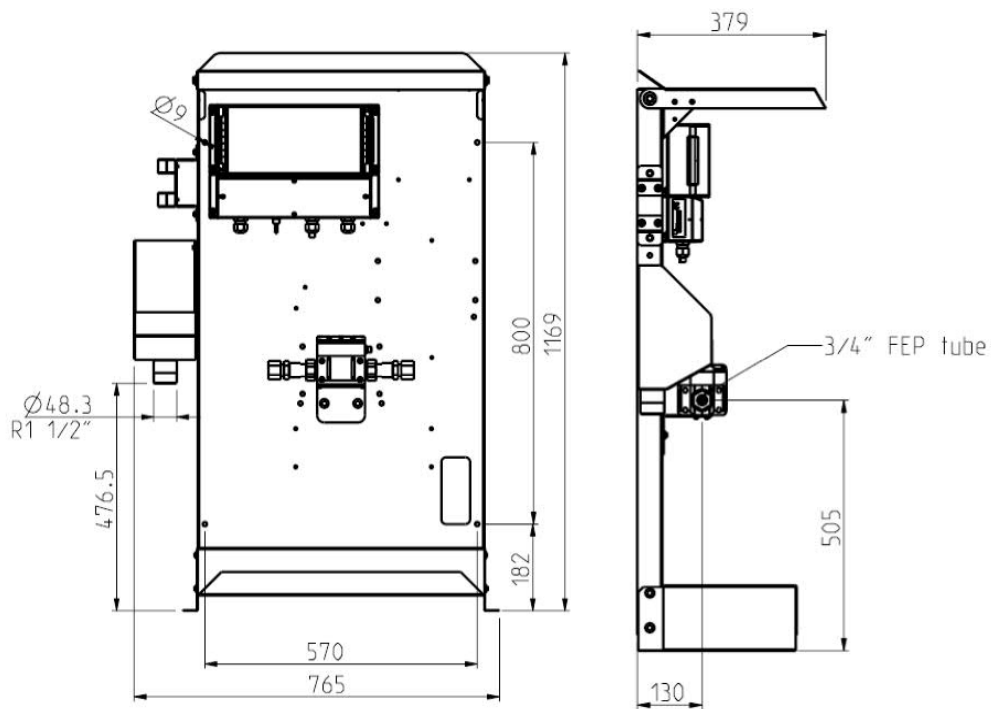

Figure 8. Dimensions of the headbox sensor.
- Headbox sensor discharge is R1 1/2" from laboratory sample funnel (figure 8)